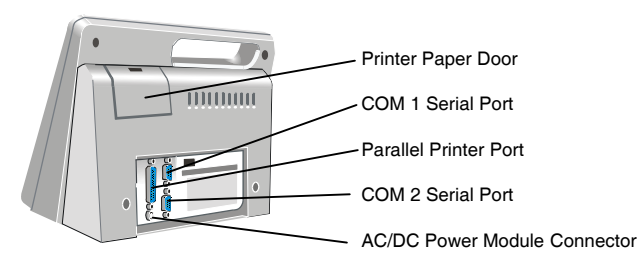

Figure 2. Location of Connectors
An IBM-compatible laboratory computer and a serial or a parallel external printer can be used with the system. The connector ports for these devices are located at the rear of the instrument (Figure 2).
2. Connect one end of the printer cable to the port marked PRINTER (for a parallel printer) or COM 1 or COM 2 (for a serial printer) (Figure 2).
2. Connect one end of the cable to the port marked COM 1 or COM 2 (Figure 2).
2. Connect the AC/DC Power Module cord to the Power connector (Figure 2).